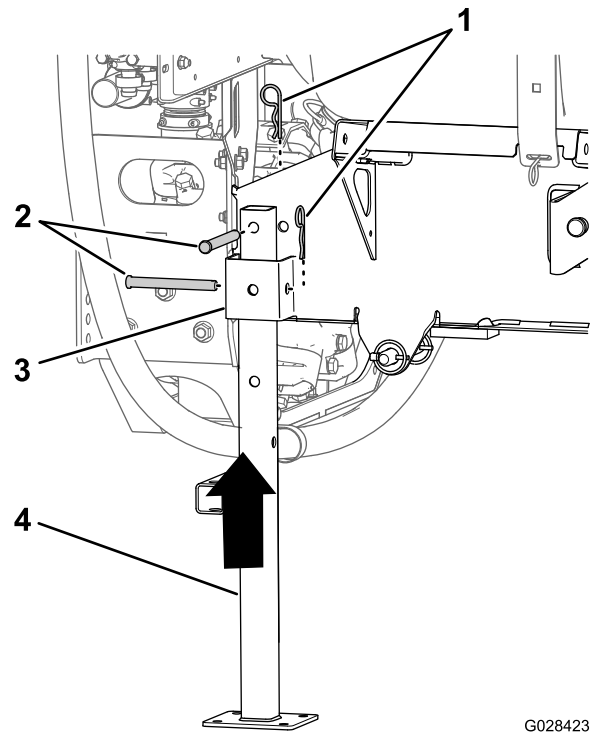

Figure 134
5. Align the rear jackstand with the rear jackstand receiver (Figure 134).
6. Align the hole in the top of the jackstand with the hole in the frame of the tank skid (Figure 134).
7. Secure the jackstand to the receiver and the frame with 2 clevis pins (1/2 x 4-1/2 inches) and 2 hairpins (5/32 x 2-5/8 inches) as shown in Figure 134.